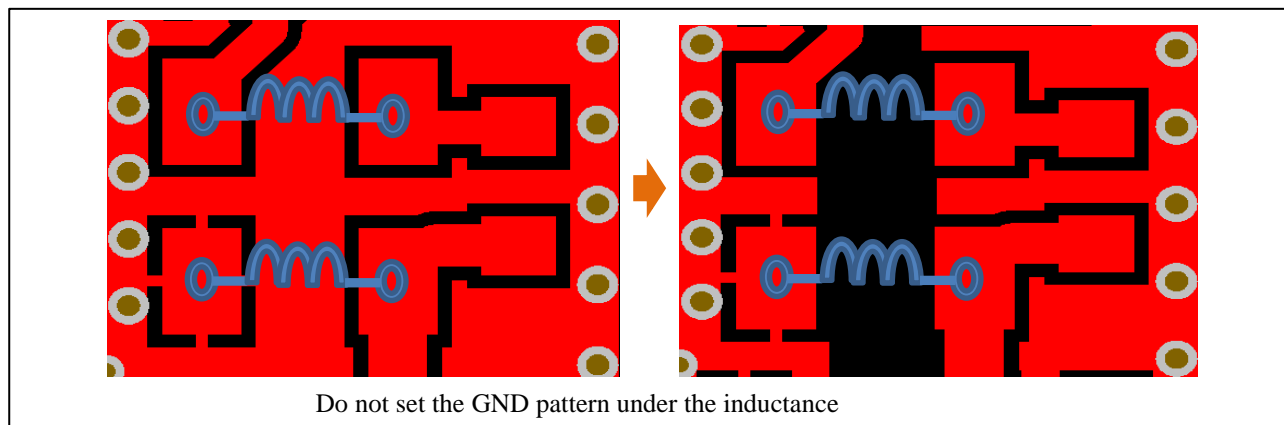

Figure 2-17 Cautions on GND patterns under the inductor
- Do not place a GND pattern under the inductance as shown in Figure 2-17 to avoid noise influences on the GND pattern. (e.g. the inductor to use for RX-BPF, a power supply circuit, and a filter for power supply line, etc.)